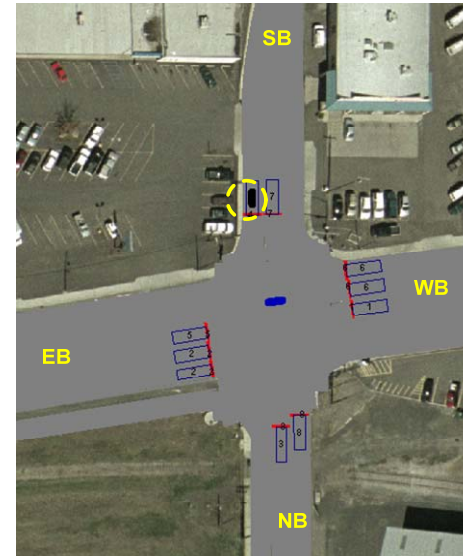

Figure 15 Intersection at simulation time step 33.5 seconds
- When the simulation reaches 33.5 seconds, the VISSIM window will appear as shown in Figure 15. Which detectors are occupied? The only detector that is occupied is on the southbound approach, detector 4.